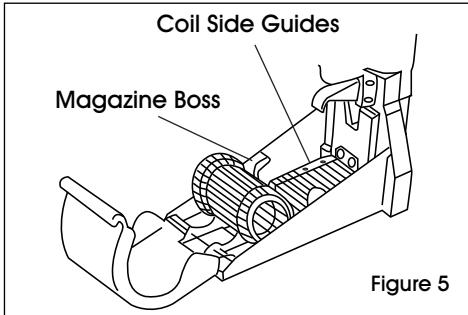

Figure 5
1. Loosen screws in coil guides to adjust. (See Figure 5)